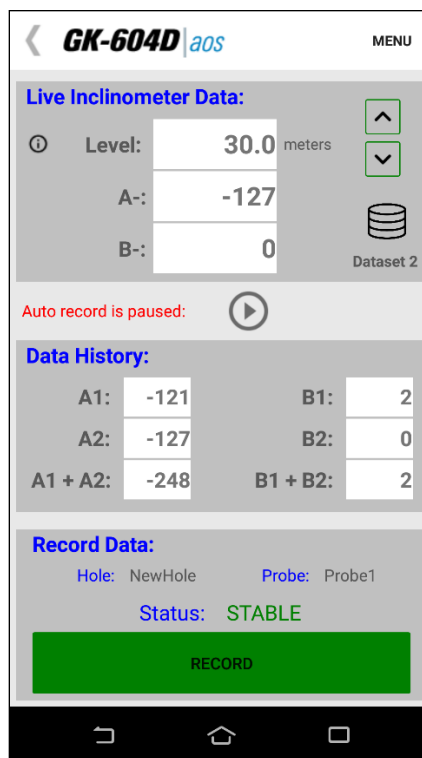

Figure 62 - Auto Record Paused, Dataset Two Selected
- 7) Tap the “Dataset 1” icon and observe that the red status text message will change to “Auto record is paused” and the “Pause” icon will change to the “Play” icon while “Dataset 1” becomes “Dataset 2” (Figure 62).